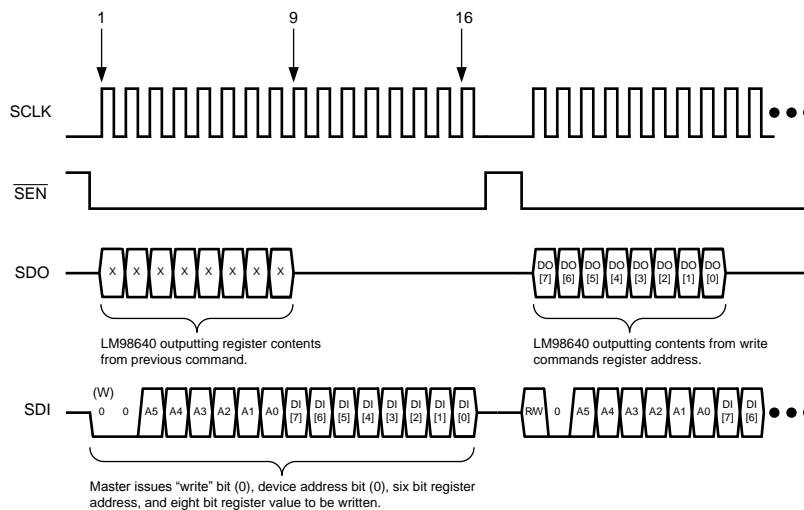

Figure 28. Four-Wire Serial Write
To write to the serial registers using the four wire interface, the timing diagram shown in Figure 28 must be met. First,  $\overline{\text{SEN}}$  is toggled low. At the rising edge of the first clock, the master should assume control of the SDI pin and begin issuing the write command. The write command is built of a "write" bit (0), device address bit (0), six bit register address, and eight bit register value to be written. SDI is clocked into the LM98640 at the rising edge of SCLK. The LM98640 assumes control of the SDO pin during the first eight clocks of the cycle. During this period, data is clocked out of the device at the rising edge of SCLK. The eight bit value clocked out is the contents of the previously addressed register, regardless if the previous command was a read or a write. When  $\overline{\text{SEN}}$  toggles high, the register is written to, and the LM98640 now functions with this new data.